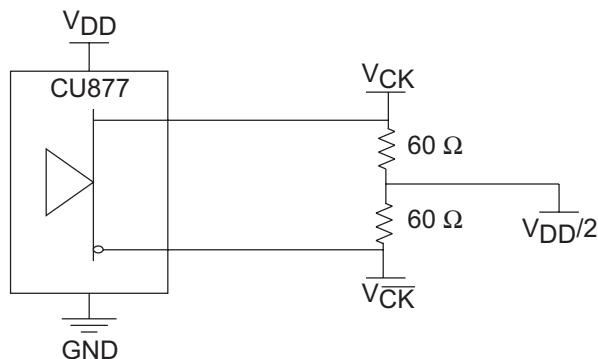
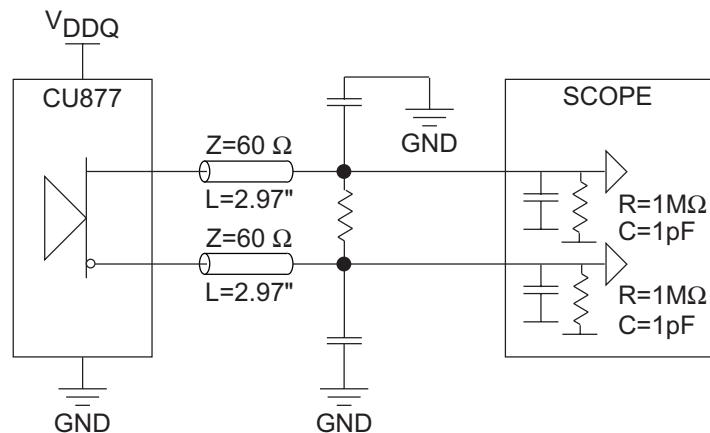
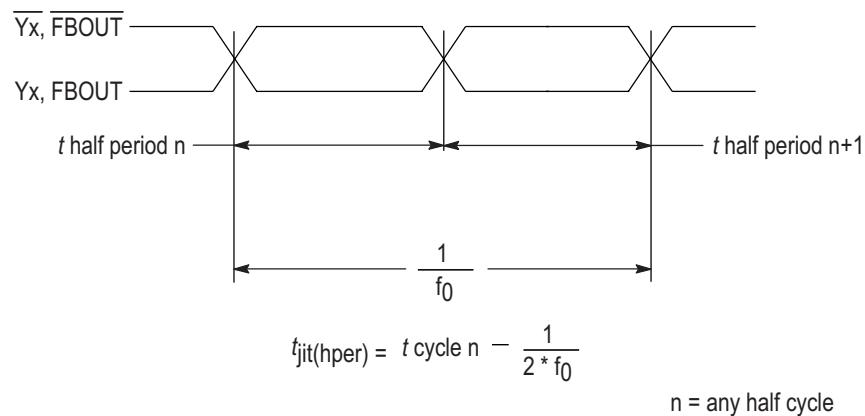

Figure 2. IBIS Model Output Load
Figure 3. Output Load Test Circuit 1
Figure 9. Half-Period Jitter
| Input differential-pair voltage 2(see <a href="#">Figure 9. Half-Period Jitter</a> ) | $V_{ID}$  | DC                          | 0.3                   |           | $V_{DDQ} + 0.4$       |      |
| Output Enable                                 | slr(i)          | see <a href="#">Figure 3</a> and <a href="#">Figure 9</a> | 0.5   |     |                             | V/ns |
| Output clock slew rate, measured single ended | slr(o)          | see <a href="#">Figure 3</a> and <a href="#">Figure 9</a> | 1.5   | 2.5 | 3                           | V/ns |
| Output differential-pair cross voltage        | V OX | see <a href="#">Figure 2</a>                              | (V DDQ /2) - 0.1                         |     | (V DDQ /2) + 0.1 | V    |
1. There are two different terminations that are used with the following tests. The loadboard in Figure 2. IBIS Model Output Load is used to measure the input and output differential-pair cross voltage only. The loadboard in Figure 3. Output Load Test Circuit 1 is used to measure all other tests. For consistency, equal length cables must be used.